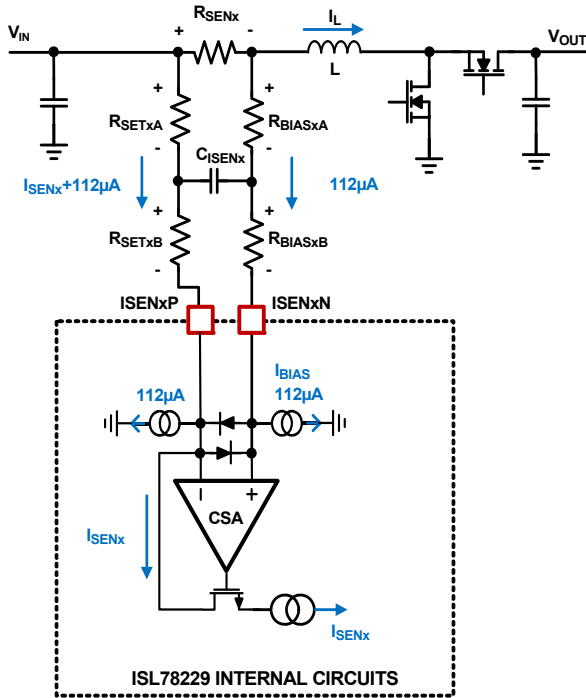

FIGURE 69. CURRENT SENSING BLOCK DIAGRAM
The ISL78229 peak current control architecture senses the inductor current continuously for fast response. A sense resistor is placed in series with the power inductor for each phase, and the ISL78229 Current Sense Amplifiers (CSA) continuously sense the respective inductor current as shown in Figure 69 by sensing the voltage signal across the sense resistor R_{SENx} (where "x" indicates the specific phase number and same note applied throughout this document). The sensed current for each active
phase will be used for peak current mode control loop, phase current balance, individual phase cycle-by-cycle peak current limiting (OC1), individual phase overcurrent fault protection (OC2), input average Constant Current (CC) control and average overcurrent protection (OC_AVG), diode emulation and phase drop control. The internal circuitry shown in Figure 69 represents a single phase. This circuitry is repeated for each phase.
The RC network between R_{SENx} and $ISENxP/N$ pins as shown in Figure 69 is the recommended configuration. The $ISENxP$ pin should be connected to the positive potential of the R_{SEN_CHx} through resistor R_{SETx} , where in Figure 69 R_{SETx} is composed by R_{SETxA} plus R_{SETxB} . R_{SET} is used to set the current sense gain externally.
Since there is an $112\mu A$ bias current sinking to each of the $ISENxP$ and $ISENxN$ pins, R_{BIASx} with same value to R_{SETx} should be placed between the $ISENxN$ pin to the low potential of the R_{SENx} , where in Figure 69 R_{BIASx} is composed by R_{BIASxA} plus R_{BIASxB} .
It is recommended to have $R_{SETxA} = R_{BIASxA}$ and $R_{SETxB} = R_{BIASxB}$, and insert a capacitor C_{ISENx} between them as shown in Figure 69. This will form a symmetric noise filter for the small current sense signals. The differential filtering time constant equals to $(R_{SETxA} + R_{BIASxA}) \cdot C_{ISENx}$. This time constant